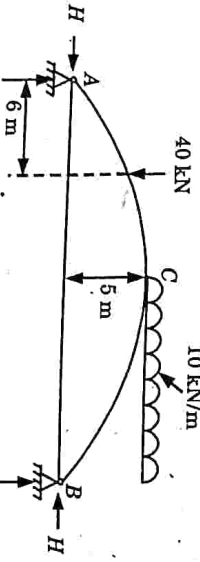

Fig. 39.
a. A three hinged parabolic arch of span 30 m and central rise of 5 m. It is subjected to a concentrated load of 40 kN at 6 m span. Calculate the normal thrust, shear force and bending moment at 6 m from the left support Fig. 39.